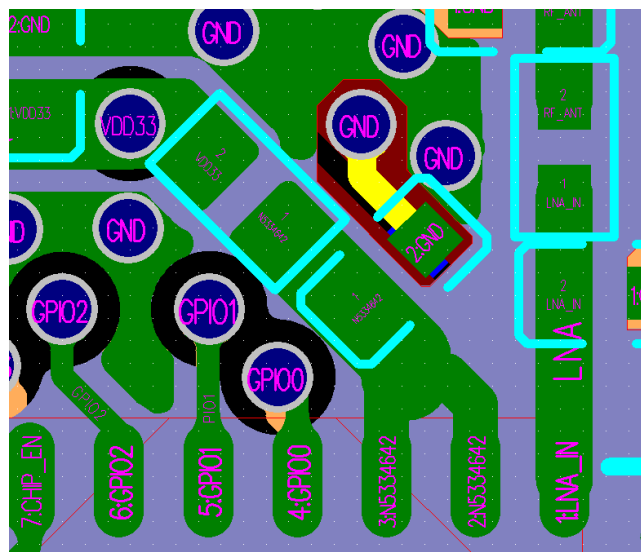

Figure 16: ESP32-C3 Family Stub in a Four-layer PCB Design
- As shown in Figure 16, we recommend connecting the capacitor to ground in the LC filter circuit near pin 2 and pin 3 (analog power supply pins) to the third and fourth layer through a via, and maintaining a keep-out area on other layers.
- To curb second harmonics, we recommend adding a stub between the ground and the two capacitors in parallel in the π -matching network. It is preferable to keep the stub length 15 mil, and determine the stub width according to the number of PCB layers, so that the characteristic impedance of the stub is $100\ \Omega \pm 10\%$. In addition, please connect the stub via to the third and fourth layer, and maintain a keep-out area on other layers. If space on PCB is limited, you may add the stub only to parallel capacitors near the antenna. The trace highlighted in Figure 16 is the stub.